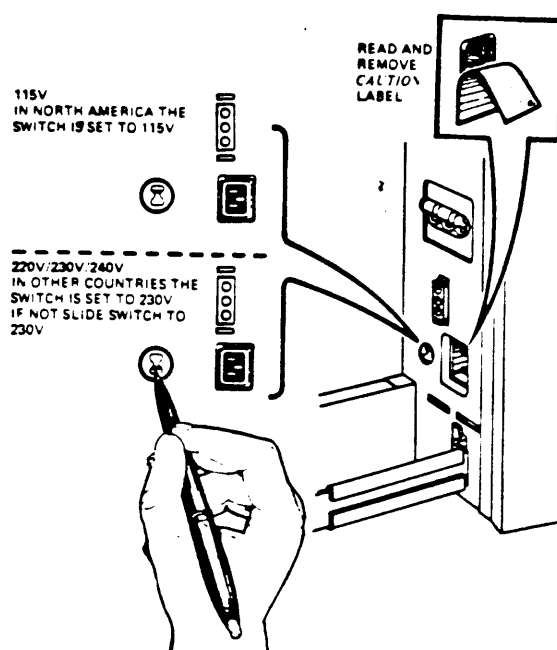

FIGURE 2-13. Checking the Voltage setting on a BA123-Based System.
Step 11: Check the voltage switch setting as shown in Figure 2-13. Peel back the label covering the switch to see the voltage setting. If necessary, change the switch setting to match the voltage source you are using.